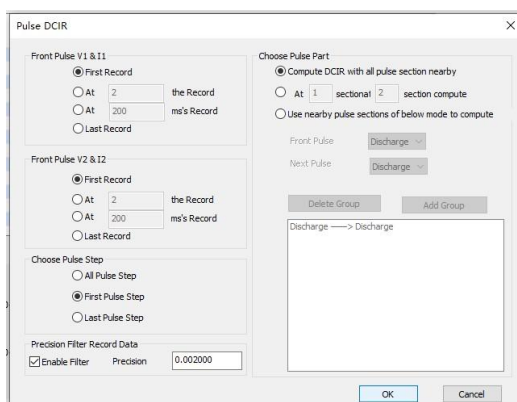

Figure 6-10 Pulse DCIR setting
② DCIR-P: Through the pulse discharge step, to calculate the internal resistance. Currently, only part of the BTS9 equipment has this function. Select the **Pulse DCIR** button to enter the pulse DCIR setting interface, as shown in Figure 6-10: